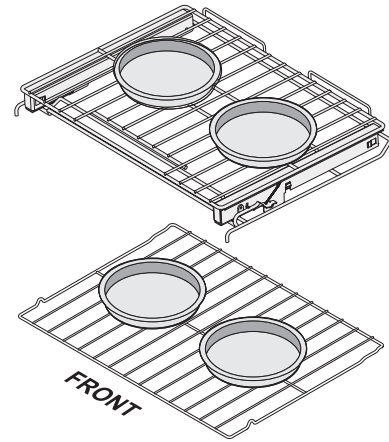

Figure 8: Pan placement
- When baking using two oven racks, position bakeware as shown in Figure 8. Allow at least 2 inches (5 cm) of space between bakeware for proper air circulation.